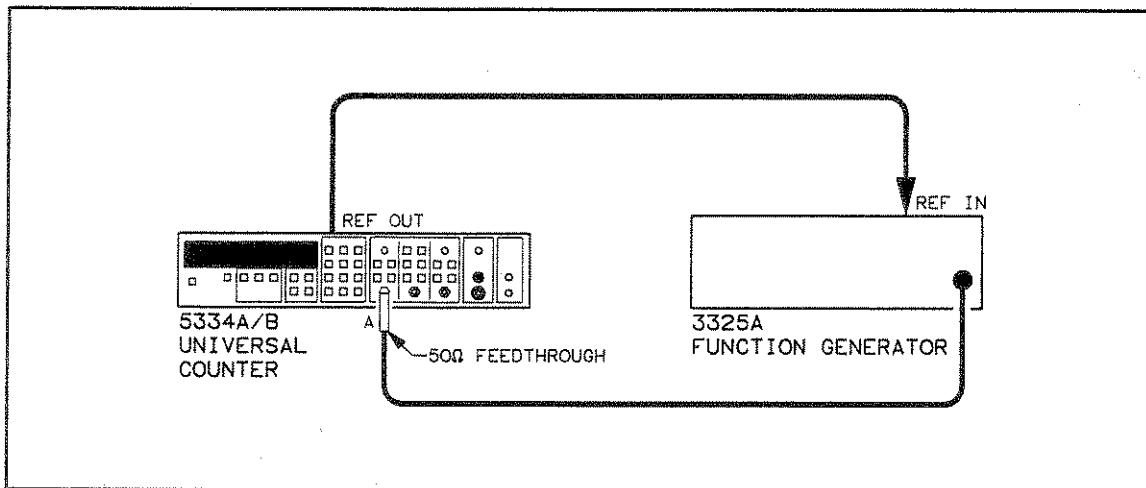

Figure 4-2. Channel A Frequency and Sensitivity Setup, 10 Hz-20 MHz
3. Connect the function generator signal to the HP 5334A/B Input A using a 50 Ohm feedthrough connector as shown in *Figure 4-2*.